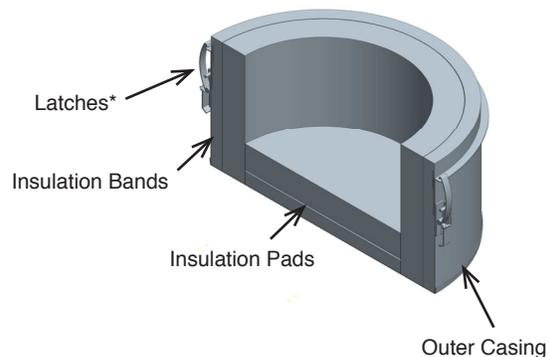

Figure 44- No-Tool Tee Cap Installation Step 3-4
- 4- Then add the insulation Pads at the bottom of the casing, in the middle of the insulation wrap. See **Figure 44**.